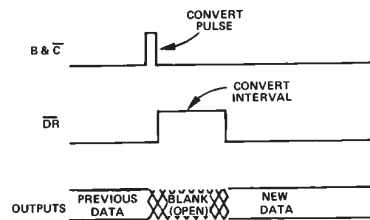
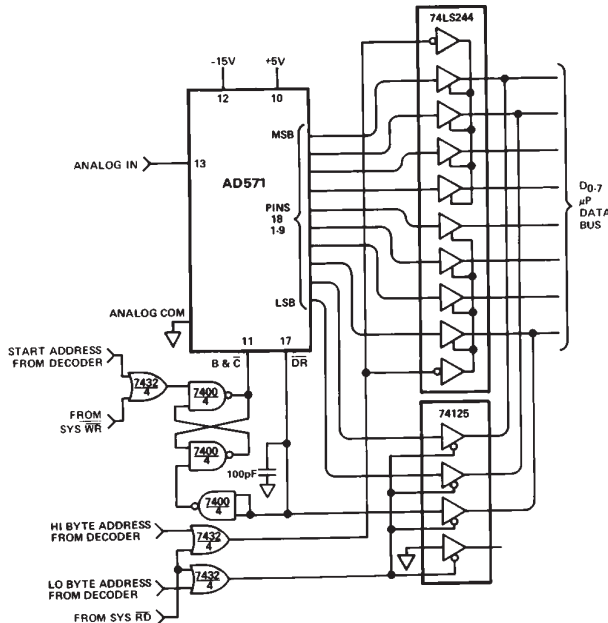

Figure 11. Convert Pulse Mode
Figure 14. Interfacing AD571 to an 8-Bit Bus (8080 Control Structure)
**Convert Pulse Mode**—In this mode, data is present at the output of the converter at all times except when conversion is taking place. Figure 11 illustrates the timing of this mode. The  $\overline{\text{BLANK}}$  and  $\overline{\text{CONVERT}}$  line is normally low and conversions are triggered by a positive pulse. A typical application for this timing mode is shown in Figure 14, in which  $\mu\text{P}$  bus interfacing is easily accomplished with three-state buffers.
The AD571 can easily be arranged to be driven from standard microprocessor control lines and to present data to any standard microprocessor bus (4-, 8-, 12- or 16-bit) with a minimum of additional control components. The configuration shown in Figure 14 is designed to operate with an 8-bit bus and standard 8080 control signals.